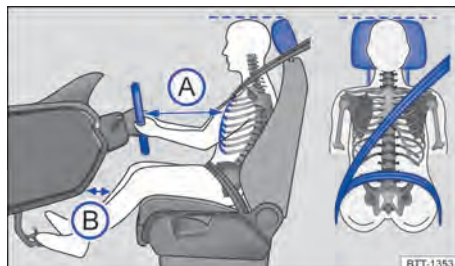

Fig. 20 Illustration: correct distance between the driver and the steering wheel, correct seat belt routing and correct head restraint adjustment.
- Adjust the head restraint so that its upper edge is at the same height as the top of the head, but not lower than eye level. Position the back of your head as close to the head restraint as possible → Fig. 20.
→ Fig. 20 A and the circumference of the steering wheel can be held at the sides with the arms slightly bent.
- Adjust the driver seat by moving it forwards or backwards so that you are able to press the pedals to the floor with your knees slightly bent and the distance from the dash panel to your lower legs is at least 10 cm → Fig. 20 B.